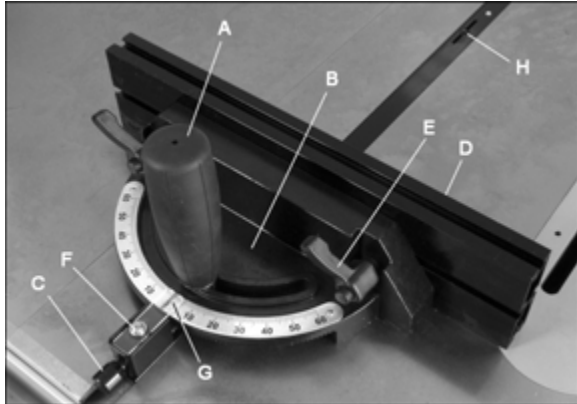

Figure 17
Refer to Figures 17, 18, 18B, and 18C.
2. Loosen lock handle (A, Figure 17) by turning counterclockwise.
3. Pull out spring-loaded knob (C) and rotate knob until body (B) of miter gauge is at desired angle as indicated on scale.
4. Tighten lock handle (A).
The Fence (D, Figure 17) can be adjusted by sliding to the right or left or removed entirely.
NOTE: The bar of the miter gauge has two slots with *set screws* (H, Figure 17). Adjust these set screws (4mm hex key) to eliminate any play between bar and miter slot.